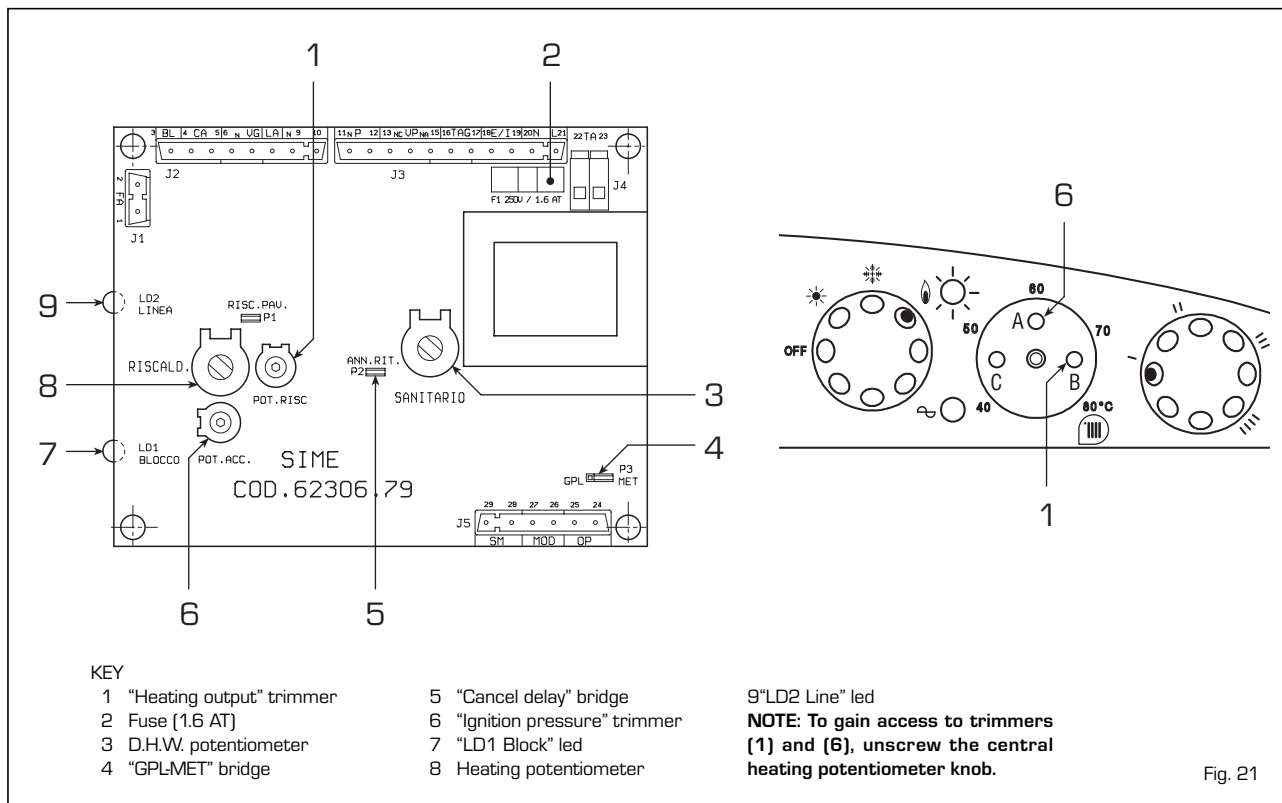

Fig. 21
the trimmer [1 fig. 21]. At start-up of each working cycle, after the period of slow ignition having a duration of approx. 5 sec, the boiler will set itself at the heat output set on the "Minimum heating pressure" trimmer.
that can cause an irregular and/or improper operation of the appliance. The leds are located on the card as indicated in fig. 21 and marked with the following wording:
- "POT. RISC." trimmer [1 fig. 21]
- "POT. ACC." trimmer [6 fig. 21]
- "GPL-MET" connector (4 fig. 21)
- "ANN. RIT." connector (5 fig. 21)